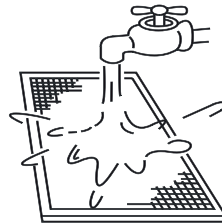

Fig. 6-9
- The air inlet side should be facing downwards if you are using clean water. (See Fig. 6-9).